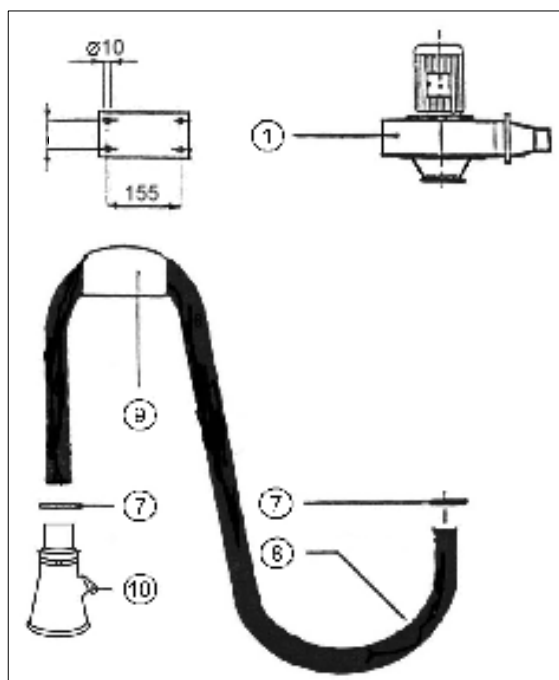
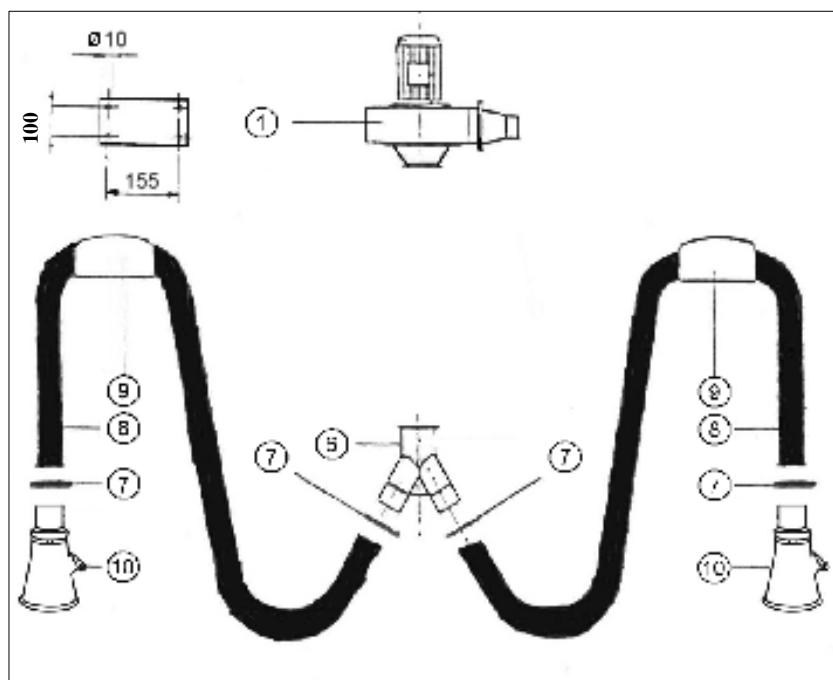

fig. 1 – ECOARGON UNO
fig. 2 – ECOARGON DUE
To identify the listed items, refer to fig. 1.
To identify the listed items, refer to fig. 2.
For correct installation, refer to the following fig. 1 or fig. 2, depending on the owned plant model and relative "List of Material" table.
- Trace the four wall fixing holes for the electric extractor starting from a height of about 2.5 m from the ground (for the pitches see figs. 1 and 2);
- Fasten the *Electric extractor* (part. 1) to the wall using the above-said dowels, ensuring the extraction inlet is facing downwards (see figs. 1 and 2);
- Fasten the *Wall bearings for inactive hoses* (part. 9) to the wall, as shown in figs. 1 and 2.